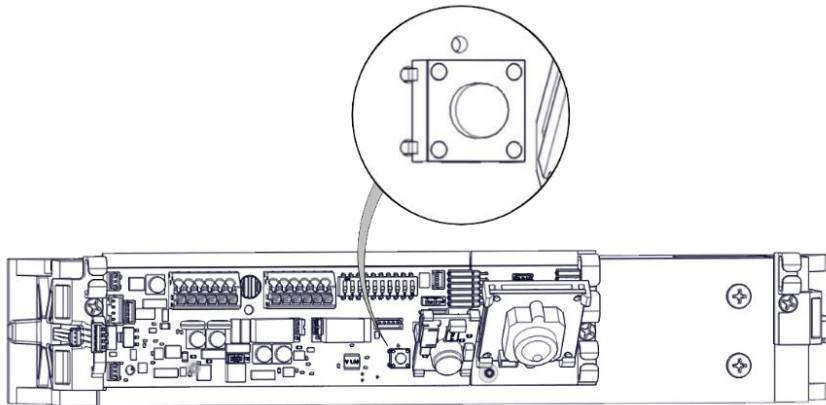

Figure 35. Location of Calibration Button
- d. PRESS and HOLD the calibration button (see Figure 35, "Location of Calibration Button").